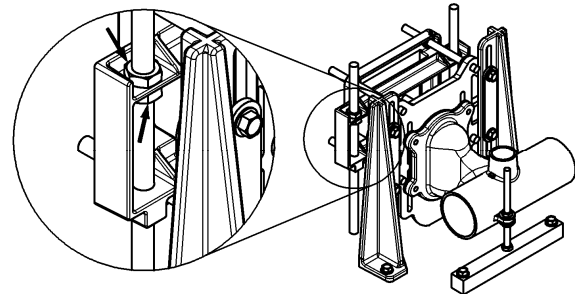

Figure 6
- 6 Tighten the (2) nuts on each vertical threaded rod. See **Figure 6**.